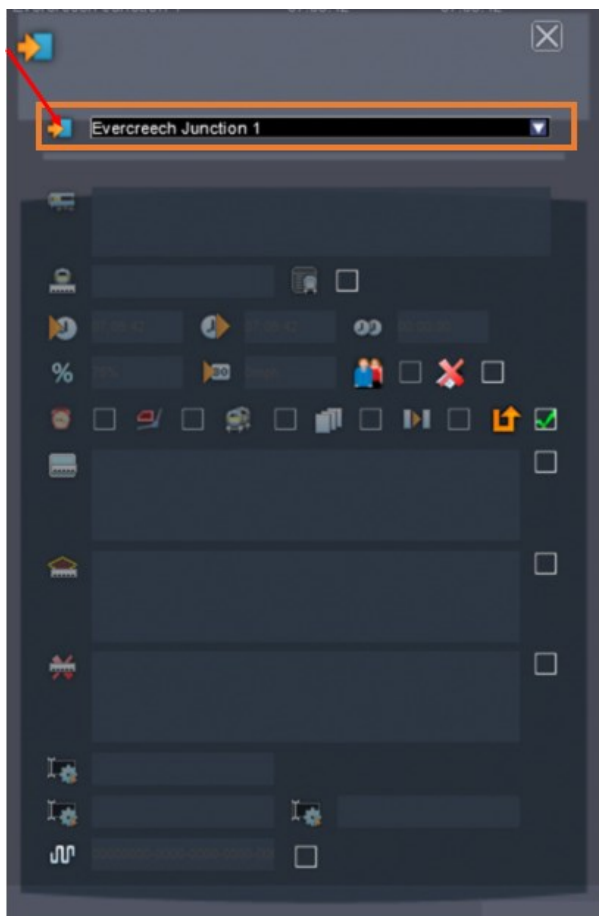

Figure 24. Form to complete the final destination instruction
If you click in the instructions list on the final destination instruction, a form will be opened, showing the parameters of the final destination instruction (Figure 24).
1. Click with the mouse on **Destination marker icon** at the left side of the drop down (see the red arrow in Figure 24).